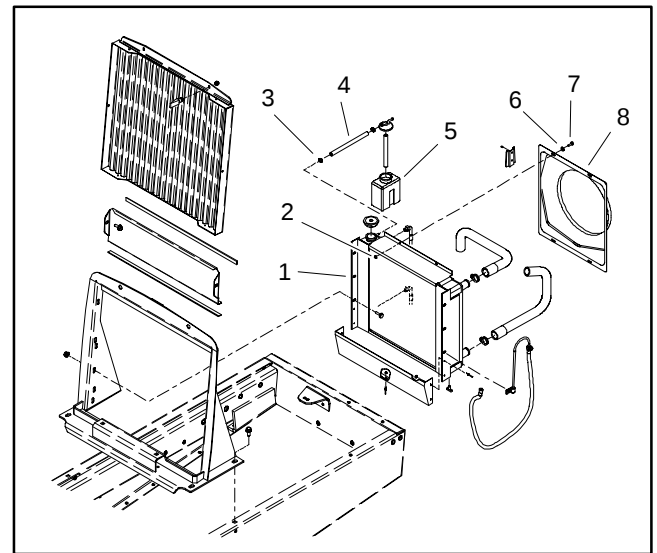
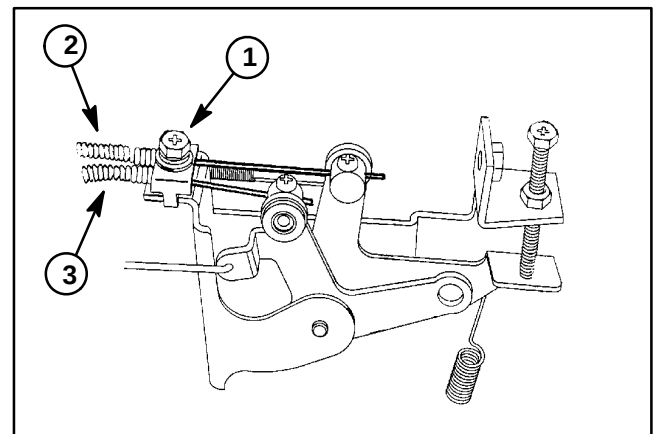

Figure 13
Figure 14
7. Loosen hose clamp and remove overflow hose from radiator fill opening (Fig. 13). Remove coolant reservoir from bracket on radiator fan shroud.
8. Remove four (4) cap screws, flat washers and lock nuts that secure fan shroud to radiator (Fig. 13). Position fan shroud away from the radiator.
11. Loosen screw that secures cable clamp to governor bracket (Fig. 14). Remove throttle and choke cables from governor levers. Position cables away from the engine.
11. Position throttle and choke cables to engine governor levers (Fig. 14). Secure cables to governor bracket with cable clamp and screw. Adjust cables (see Adjust Throttle Control and Adjust Choke Control in the Adjustments section of this chapter).
14. Position fan shroud to radiator. Make sure that a minimum of .250" (6.4 mm) clearance exists at all points between shroud and fan. Secure fan shroud to radiator with four (4) cap screws, flat washers and lock nuts.
15. Install coolant reservoir to bracket on radiator fan shroud (Fig. 13). Install overflow hose to radiator fill opening and secure with hose clamp.